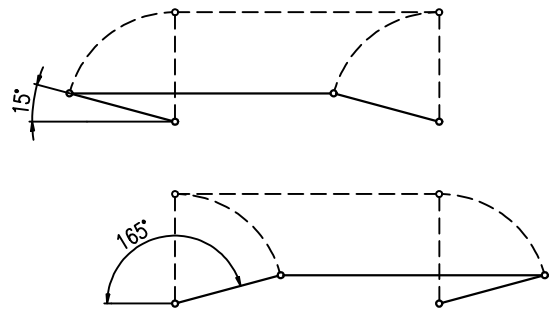

Fig.1
- While installing take care to have the angle between the lever and the pull-rod at least 15° and at most 165° (Fig.1).